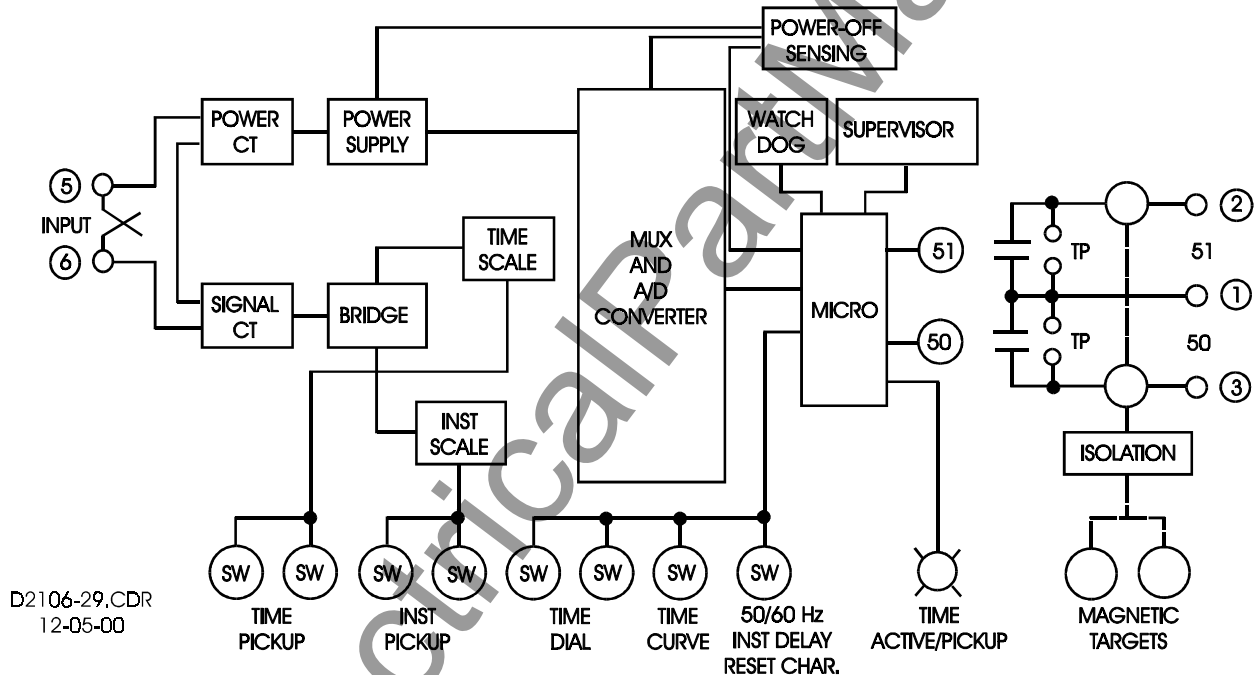

Figure 3-1. Functional Block Diagram
Single phase ac current from system current transformers (CT) is brought into the BE1-50/51B-214 Overcurrent Relay at terminals five and six. Refer to Figure 3-1 to follow the functional description. The input current is applied to internal power and signal CTs.